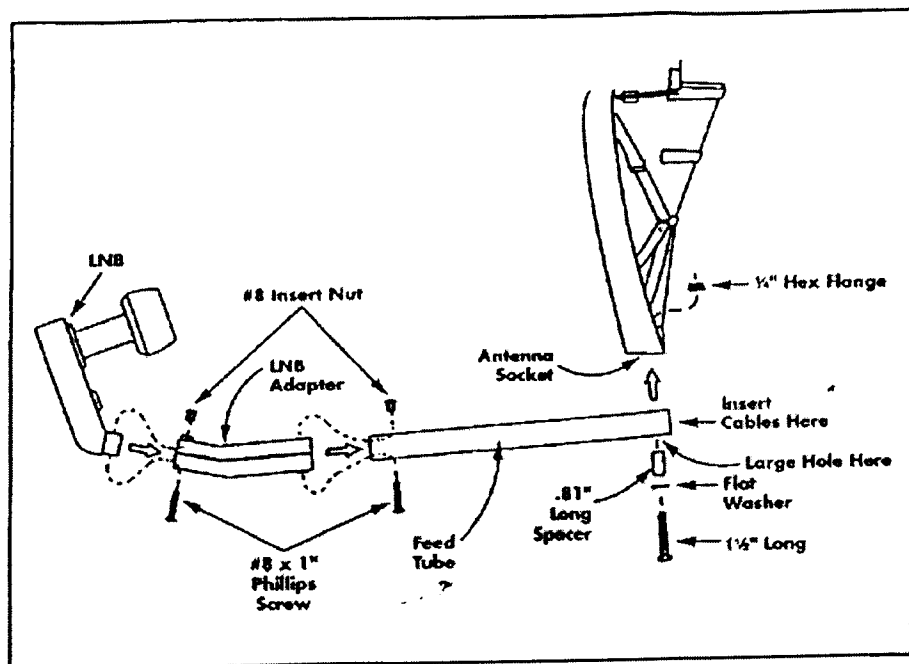

FIGURE 7
11. Attach the rectangular feed tube to the antenna socket making sure the large round hole for the spacer is positioned as shown in Figure 7. Tighten bolt while holding nut. Slight movement of adapter after tightening is normal.
12. Attach the LNB adapter to the feed tube with #8 hex insert nut and 1" long Phillips head screw. See Figure 7.
19. Carefully push the LNB's and attached cables into the LNB adapter and secure with #8 Insert Nut and 1" long #8 phillips head screw. See Figure 7. Slight movement of LNBs after tightening is normal.